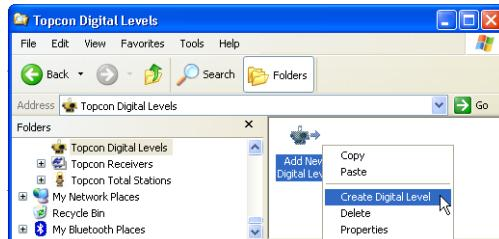

Figure 2-29. Creating a New Digital Level
1. Open Windows Explorer and click the *Topcon Digital Levels* dialog box (Figure 2-29). The right panel of the window displays the *Add New Digital Level* icon. To add a new device, right click this icon and select *Create Digital Level* on the pop-up menu.